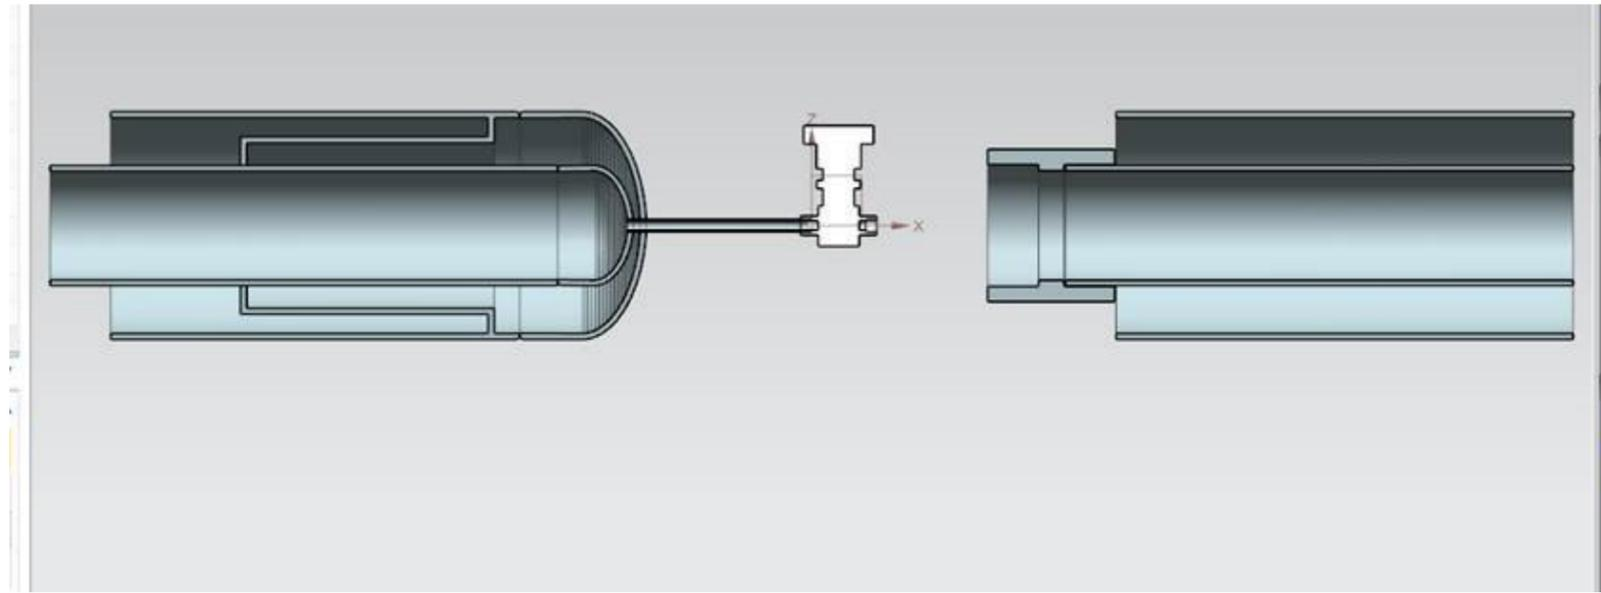

Figure 1 Typical interface between CERN (left) and Fermilab (right) after shipment before installation
- See connection type for a vacuum jacketed piping (typical) below on Fig.1: